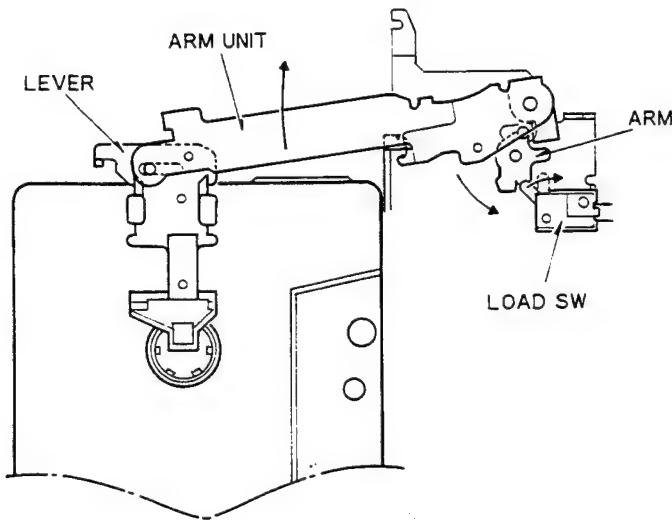

Fig. 8
- (1) Loading of a tape cassette causes an arm unit to turn, which causes the load switch to turn ON. With the load switch ON, a motor runs to cause all gears other than FF/REW idler gears to mesh and forward and reverse idler gears rotate in the respective play direction. Now the ATSC state is obtained (Figs. 8 and 9).